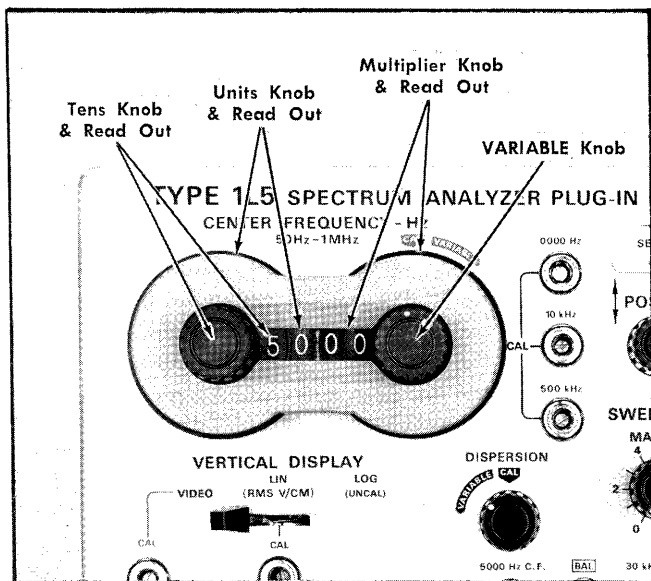

Fig. 2-11. CENTER FREQUENCY-Hz Selector.
e. Return the signal to center screen. Adjust the CENTER FREQUENCY selector above and below 100 kHz and note the signal shift across the screen. To select a center frequency below 100 k, the Multiplier (right black knob; see Fig. 2-11) must be switched to the k readout position and the tens (small black knob) must be switched to 9. The tens selector will now shift the Type 1L5 center frequency below 100 kHz and the signal will move to the right side of the graticule.
h. Reduce the DISPERSION Hz/CM switch setting to 1 K. The REDUCE DISPERSION indicator should no longer be lit and the display should contain a single 10 kHz signal near screen center. Switch the center frequency by turning the units knob (large knob behind the tens knob; see Fig. 2-11). Note that the 10 kHz signal now shifts in 1 kHz steps as the units knob is switched through its range. To switch the CENTER FREQUENCY below 10 kHz, set the tens indicator to 9, the units indicator to 0, and the Multiplier to 00. The CENTER FREQUENCY readout will now read 9000 Hz.
The center frequency of the spectrum display is selected by three switches and a variable potentiometer. These are grouped for front panel readout as shown in Fig. 2-11. The following precautions should be observed when setting the controls: